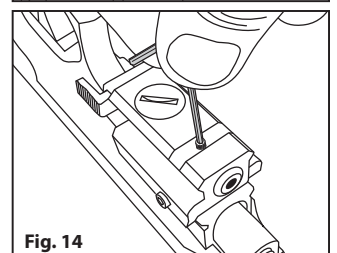

Fig. 14
- **Elevation adjustment:** with the muzzle pointing forward and the adjustment tool inserted into the elevation port on the bottom of the laser, a clockwise turn will shift the laser aiming point down, a counterclockwise turn will shift the laser aiming point up (Fig. 14).